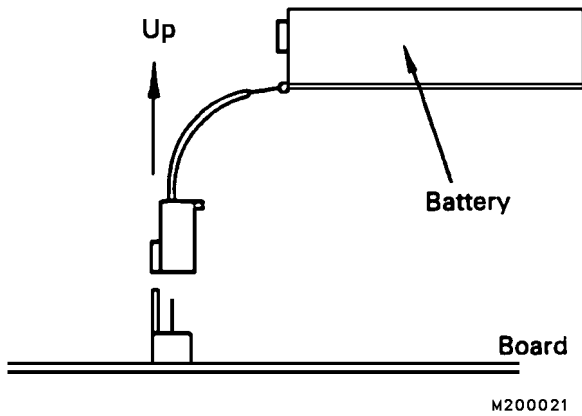

FIGURE 6-10. BATTERY CONNECTION
6. Insert the connector of the new battery directly into the connector on the board (Figure 6-10). Place the battery in the battery holder, and pass the wiring through the notch. When doing this, insert the wiring into the bottom of the holder and pass it through the notch.